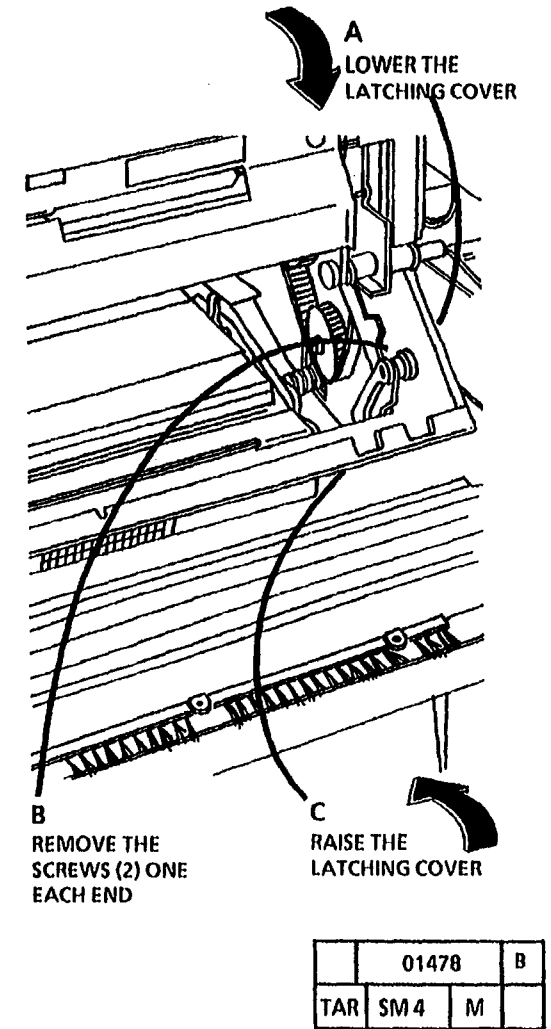

Figure 4. Remove the Latch Bars
8. (Figure 4): Remove the Latch Bars.